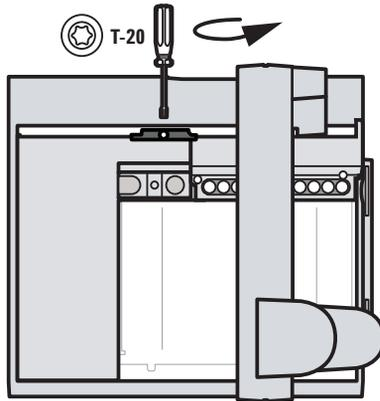

Figure 8 Removing the T-20 screw from the shipping clamp
- 5 Using a T-20 Torx driver, remove the T-20 screw from the shipping clamp (Figure 8).